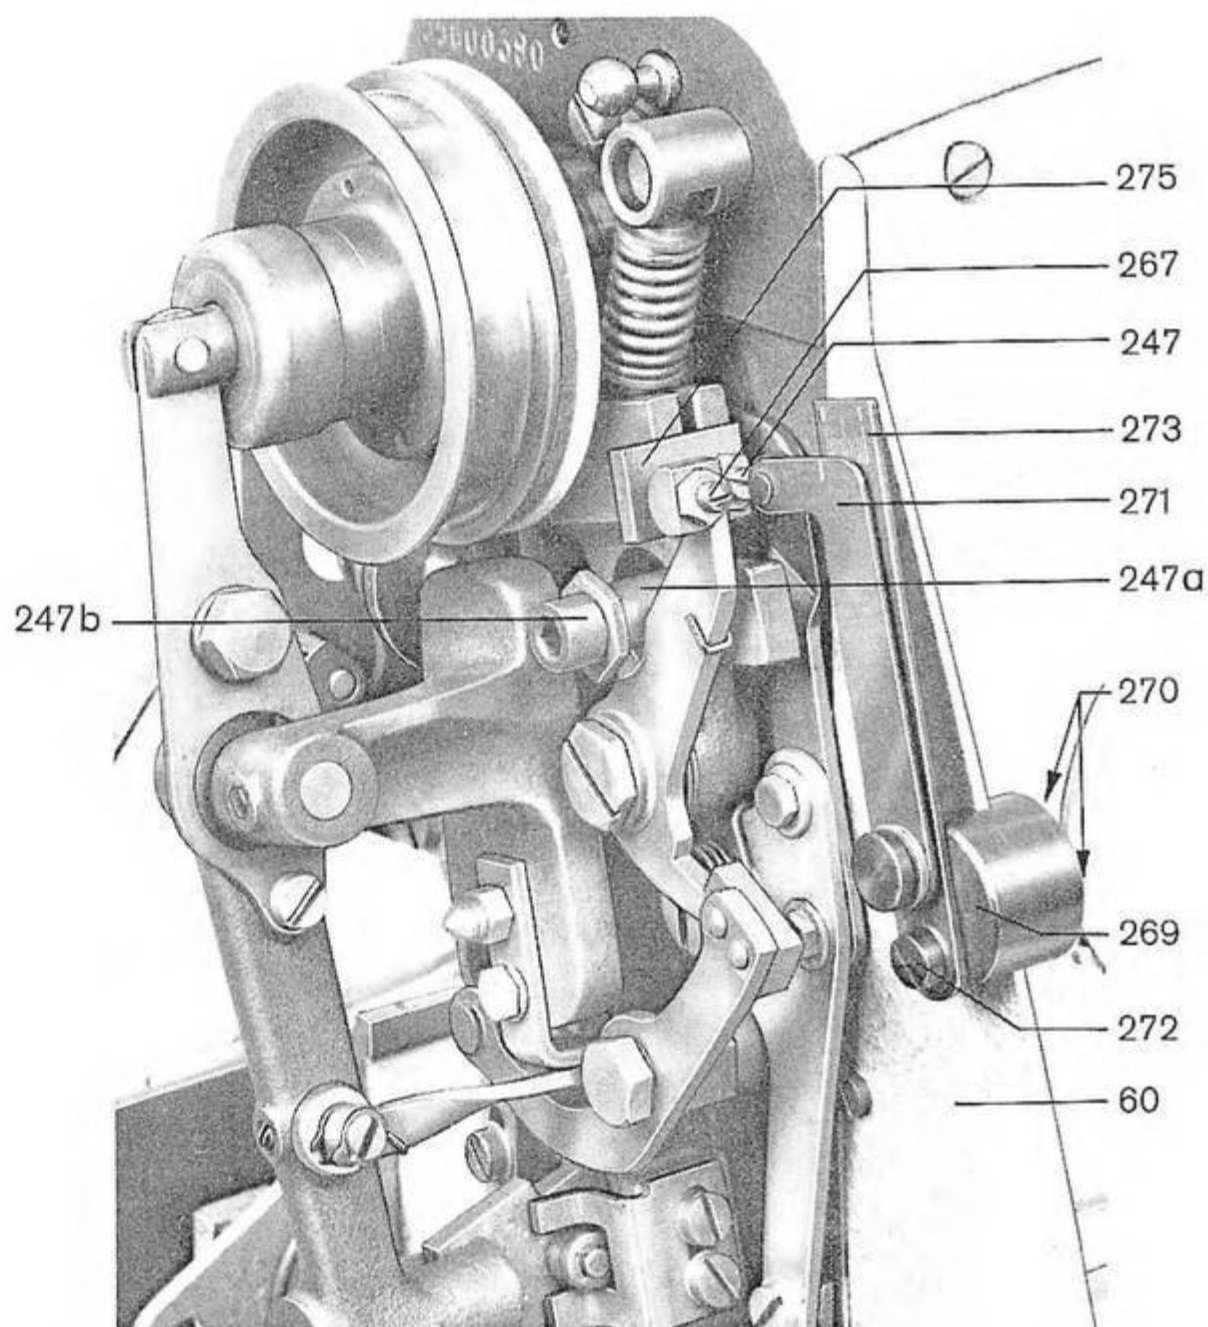
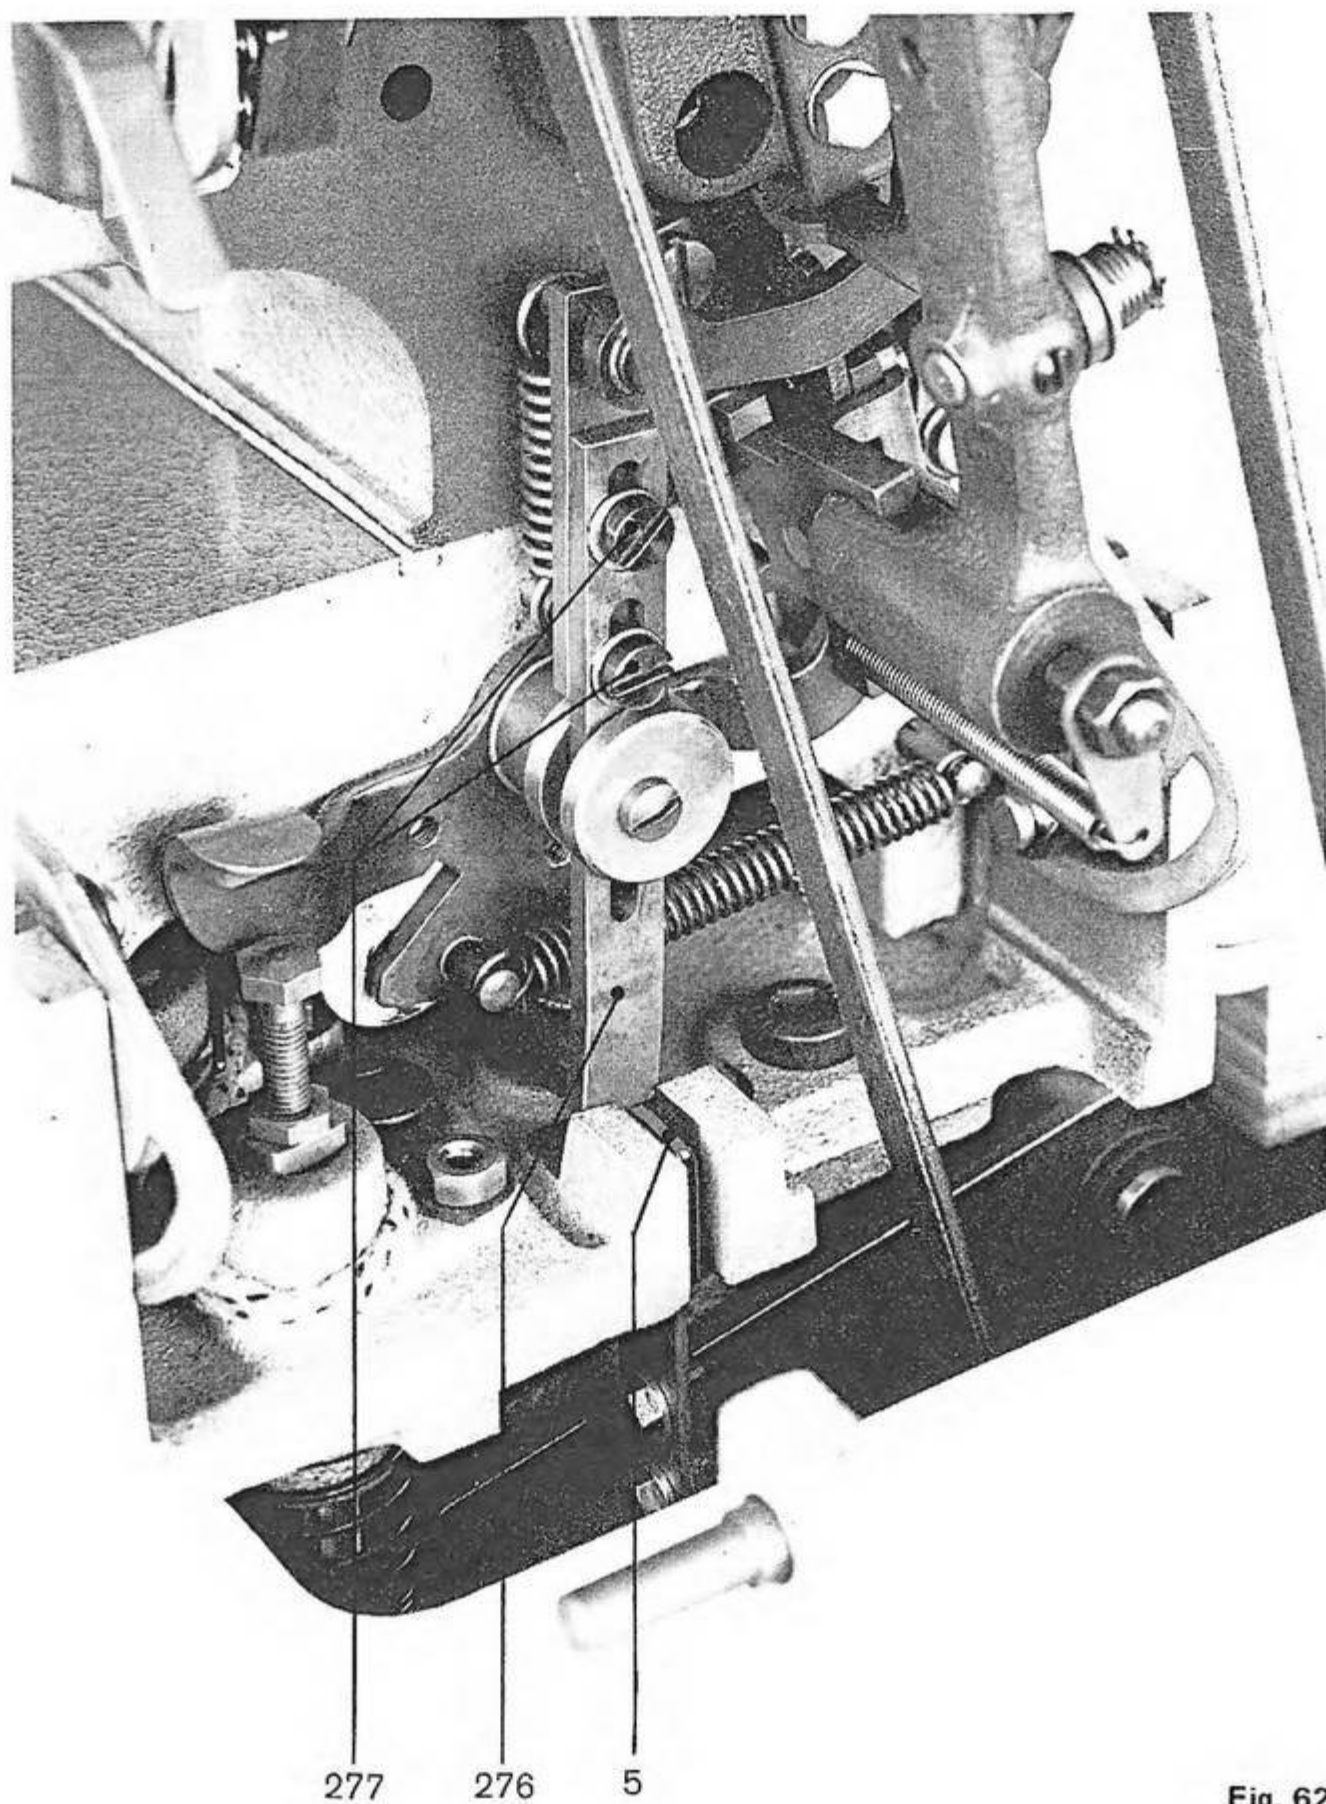

Fig. 60
Fig. 62
In the new machines do not modify the adjustment of the thrust bolt 247, set by means of a gauge and sealed by yellow varnish. For setting the distance of about 0.2 mm with respect to the braking piston 9 (fig. 55a) loosen the screw 247b (fig. 60) and turn the eccentric 247a (fig. 55a and 60).
Adjust the stud 267 (fig. 60) of the ratchet 265 as follows:
By means of the two thumb screws 270 clamp the gauge 269 (fig. 60), ref. No. 5562311, to the protective sheet 60 and set the angular part 271 against the thrust bolt 247.
Loosen the screw 272 and adjust the scale 273 so that the division mark "0" is above the division mark of the angular part 271. Make then the machine perform several cycles and check the gauge to see to what extent the thrust bolt 247 (fig. 60) is whipping.
Add to the measure determined a safety distance of 1 mm and set the stud so that the distance between said stud 267 (fig. 60) and the plate 275 corresponds to this total measure.
Adjust then the safety bar 276 (fig. 62) as follows:
2. Loosen the screws 277 (fig. 62).
3. Release the ratchet 265 (fig. 60) so that the safety bar 276 (fig. 62) can move downwards.